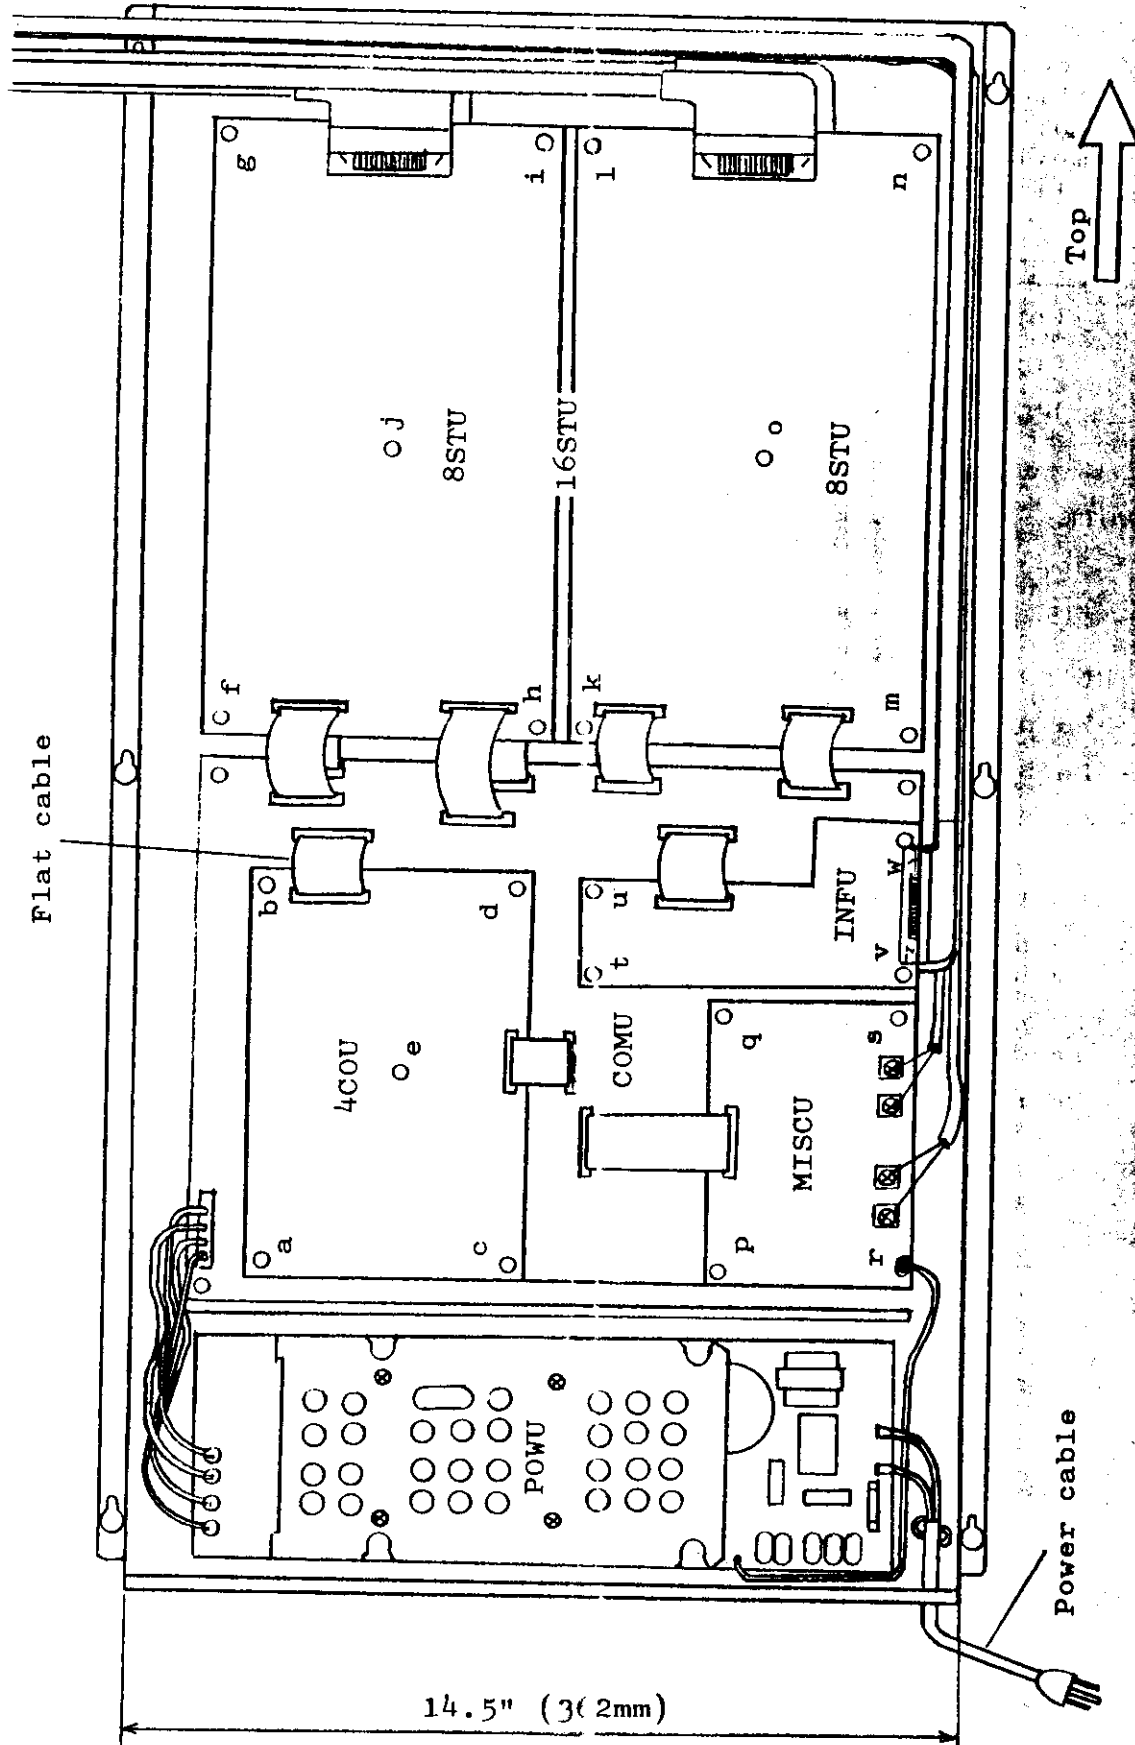

Fig. 3 Circuit Card Installation
3	Holding the circuit card by edges of the card, install it in the assigned position in the KSU cabinet. Refer to Fig.3.
| 2 | Insert five(5) LCBS-16N spacers into the appropriate holes a, b, c, d and e through the COMU card (Fig.3).        |
| 5 | Mount the 4COU card in its position as shown in Fig.3 and secure by above spacers.                                |
| 2 | Insert five(5) stand-offs into the appropriate holes, f, g, h, i and j through the 16STU card (Fig.3).              |
| 4 | Mount the 8STU card in its position as shown in Fig.3 and fasten it with M3x6S screws provided.                     |
| 1 | Insert five(5) stand-offs into the appropriate holes, k, l, m, n and o through the 16STU card (Fig.3).               |
| 3 | Mount the 8STU card in its position as shown in Fig.3 and fasten it with M3x6S screws provided.                      |
2	Insert four (4) LCBS-16N spacers into the appropriate holes, p,q,r and s on the COMUCARD (Fig.3).
5. Mount the MISCUCARD in its position as shown in Figure 3 and secure by four spacers stated in STEP 2 above.
6. Insert the other end of the flat cable into the connector "CNG" on the COMUCARD (Fig.3).
2	Insert four(4) stand-offs into the appropriate holes t, u, v and w through the COMU card (Fig.3).
4	Mount the DB INFU card in its position as shown in Fig:3 and secure by above stand-offs.